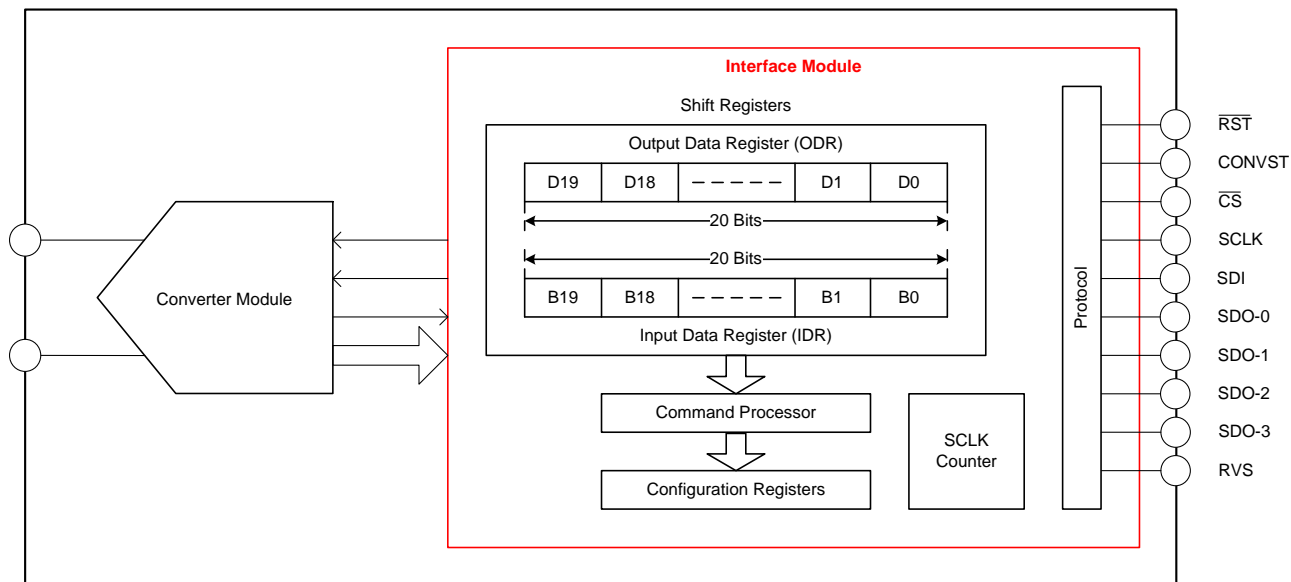
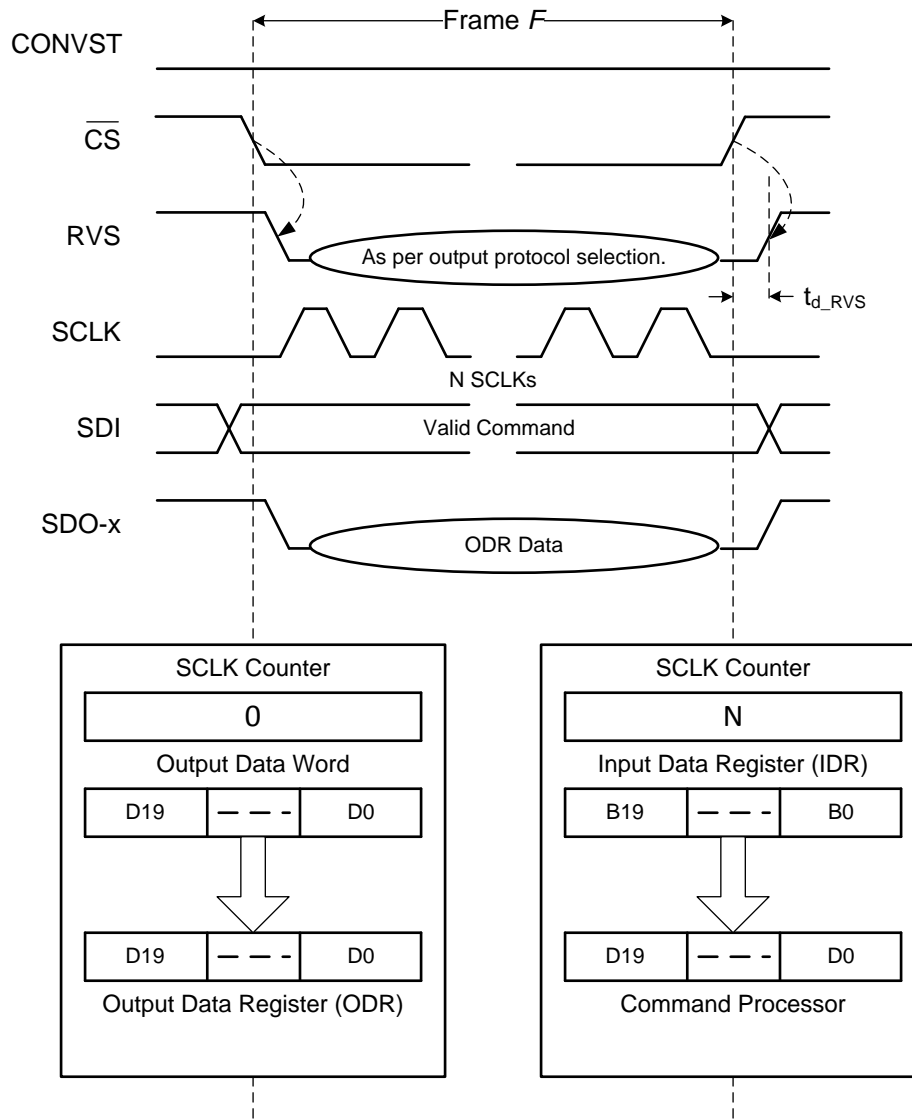

Figure 40. Interface Module
Figure 46. Data Transfer Frame
The interface module facilitates the communication and data transfer between the device and the host controller. As shown in Figure 40, the module comprises of shift registers (both input data and output data), configuration registers, and a protocol unit.
A data transfer frame between the device and the host controller is bounded between a  $\overline{CS}$  falling edge and the subsequent  $\overline{CS}$  rising edge. The host controller can initiate a data transfer frame (as shown in Figure 46) at any time irrespective of the status of the CONVST signal; however, the data read during such a data transfer frame is a function of relative timing between the CONVST and  $\overline{CS}$  signals.
- The device takes control of the data bus. As shown in Figure 46, the 20-bit contents of the output data word (see Figure 44) are loaded in to the 20-bit ODR (see Figure 40).
- The 20-bit IDR (see Figure 40) is reset to 00000h, corresponding to a NOP command.
- As illustrated in Figure 46, the 20-bit contents of the IDR are transferred to the command processor (see Figure 40) for decoding and further action.